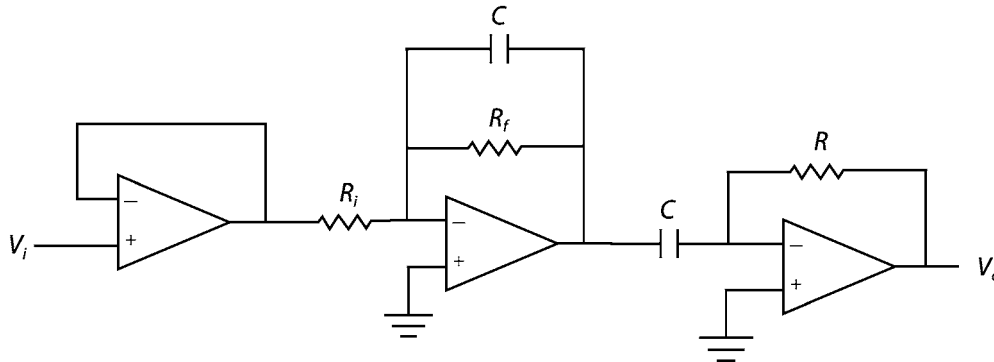

Figure 8: Buffer-filter-amplifier-differentiator circuit.
- Design a buffer-filter-amplifier-differentiator circuit (Figure 8) that will differentiate a 2 Hz, ± 2 -volt sine wave and amplify its amplitude to a 2Hz, ± 4.5 -volt (9-volt peak-to-peak) sine wave. Refer to the pre-lab and the active low-pass filter section of this lab for the necessary methods. Be sure to use an appropriate cutoff frequency. Record the required values for your electronic components in the spaces provided.